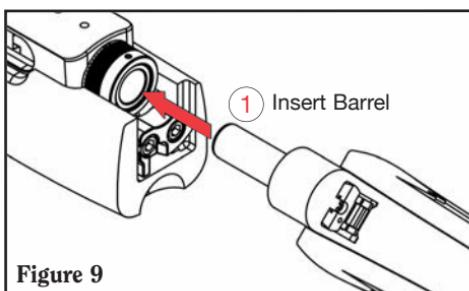

Figure 9
3. Insert the barrel into the receiver as demonstrated in Figure 9.